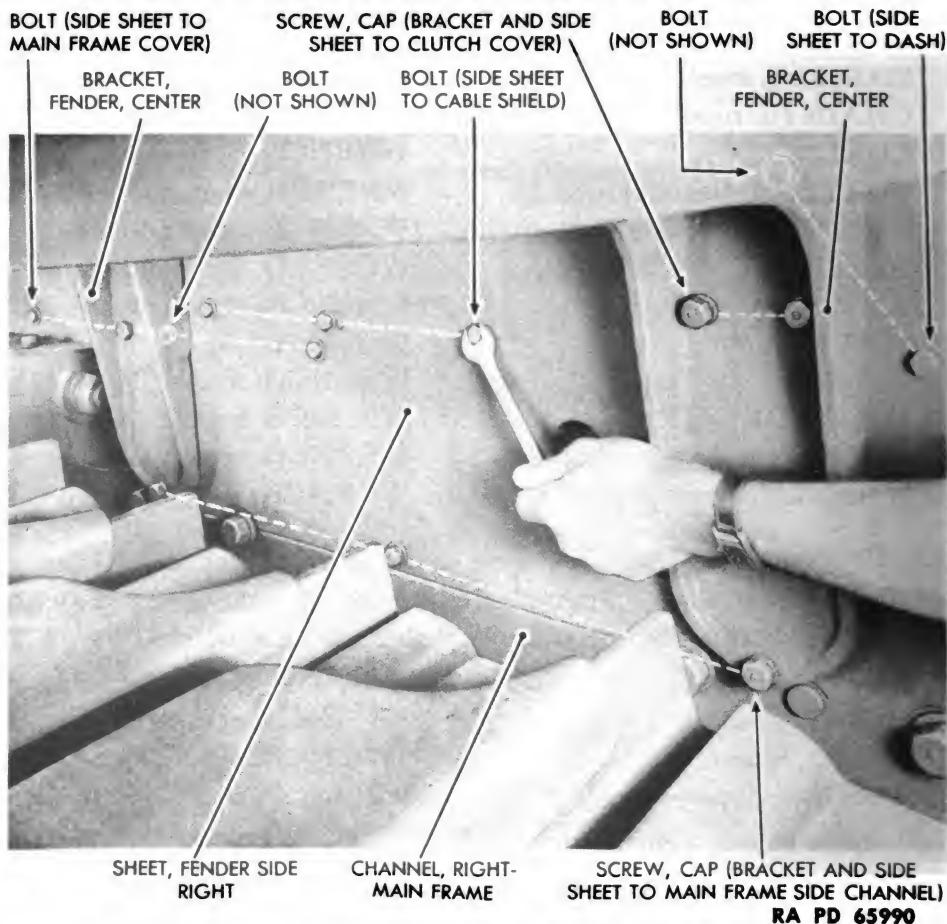

Figure 81 — Disconnecting Right Fender Side Sheet from
(1) REMOVE SEAT, FENDERS, GROUSER BOXES, PACK CARRIER, DIESEL FUEL TANK, AND FENDER SIDE SHEETS AS A UNIT (figs. 81, 82, 83, and 84).
(f) Disconnect right fender side sheet from battery cable shield by removing 3 bolts, lock washers, and nuts (fig. 81). Use two $\frac{9}{16}$ -inch open-end wrenches.
(g) Disconnect the right fender side sheet from main frame cover by removing 4 bolts, lock washers, and nuts (fig. 81). Two of these bolts are located in center fender bracket. Use two $\frac{9}{16}$ -inch open-end wrenches.
(h) Use two $\frac{9}{16}$ -inch open-end wrenches to disconnect right fender side sheet from dash and cowl assembly by removing 2 bolts, lock washers, and nuts (fig. 81). One of these bolts is located in top of side of front fender bracket.
(i) Disconnect right fender side sheet and front fender bracket from engine clutch cover by removing 2 cap screws and lock washers (fig. 81). Use a $\frac{3}{4}$ -inch socket wrench.
(j) Disconnect right fender side sheet from main frame right channel by removing 3 cap screws and lock washers (fig. 81). One cap screw is located in bottom of front fender bracket, another in bottom of center fender bracket. Both require a $\frac{3}{4}$ -inch socket wrench. The third cap screw also has a flat washer. Remove it with a $\frac{9}{16}$ -inch open-end wrench.
(q) Disconnect left fender side sheet from main frame cover as in (g) above (fig. 81).
(r) Disconnect left fender side sheet from main frame left channel as in (j) above (fig. 81).